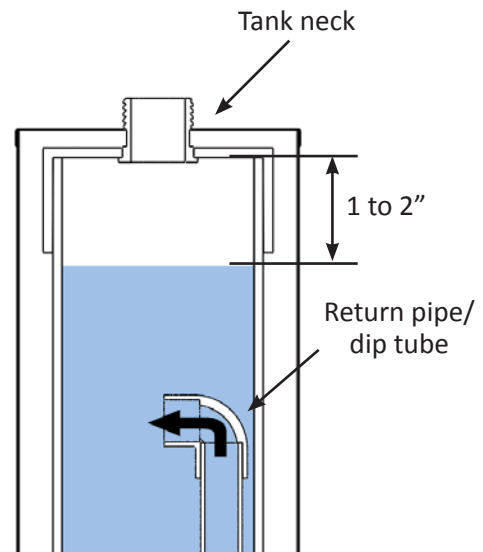

Figure 13: Fluid level of the NP tank (blue shading)
10. Fill the NP Series flow center reservoir with clean, debris free loop fluid. This can be the same pre-mixed fluid that remains in the flush cart after flushing and filling the loop. The tank should be filled to about 1"-2" below the bottom of the tank's neck. Figure 13 shows a cross section of the NP flow center indicating the approximate fluid level.
3. Start flow center pump(s) and allow system to operate for several minutes. Remove tank's cap and check fluid level adding additional loop fluid, if necessary, while pump(s) are running. Fluid should be about 2" below the bottom of the tank's neck as shown in Figure 13. Replace the cap and tighten until there is an audible "click" similar to an automobile's gas cap.